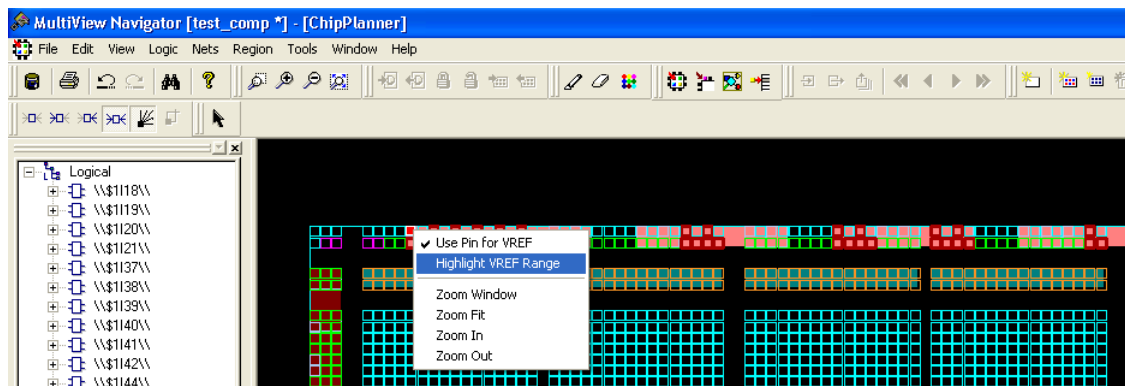

Figure 8-15 • VREF Range
- Right-click and then choose **Highlight VREF range**. All the pins covered by that VREF pin will be highlighted (Figure 8-15).